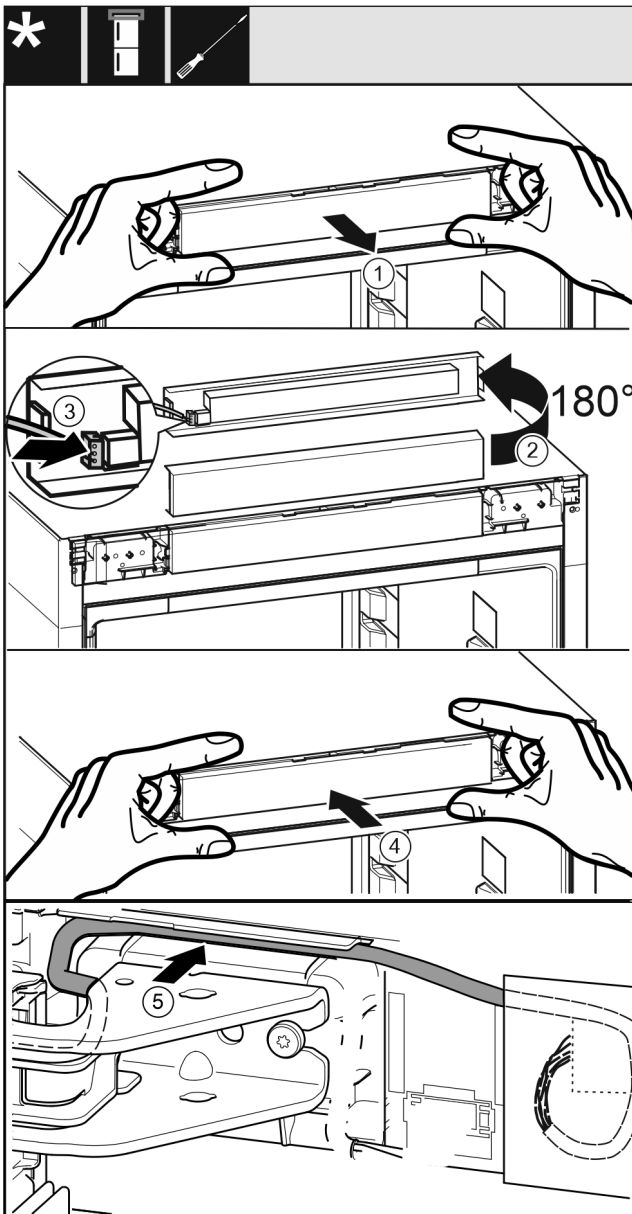

Fig. 62
- ▶ Remove the control panel trim Fig. 62 (1) carefully.
- ▶ Turn the control panel trim Fig. 62 (2) up by 180°.
- ▶ Engage the plug Fig. 62 (3) on the control panel trim.
- ▶ Re-engage the control panel trim Fig. 62 (4) on the appliance.
- ▶ Lay the cable Fig. 62 (5) carefully in the guide above the top swap bearing block.